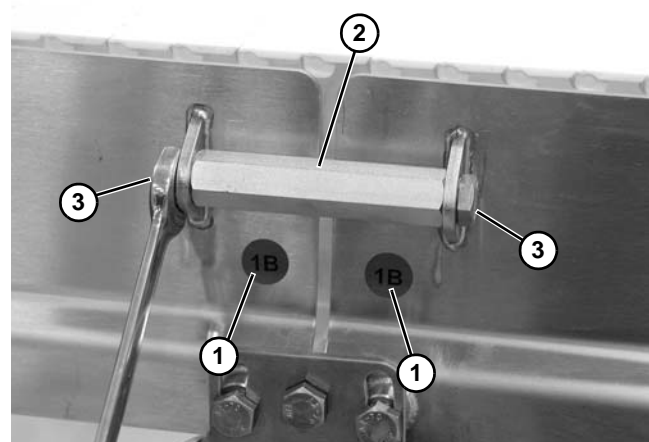

Figure 5
1. Locate and arrange conveyor frame sections by section labels (Figure 5, item 1).
2. Join both conveyor frame sections and install connector (Figure 5, item 2) with two screws (Figure 5, item 3) on both sides. Tighten to 28-32 Nm (20-24 ft-lbs).